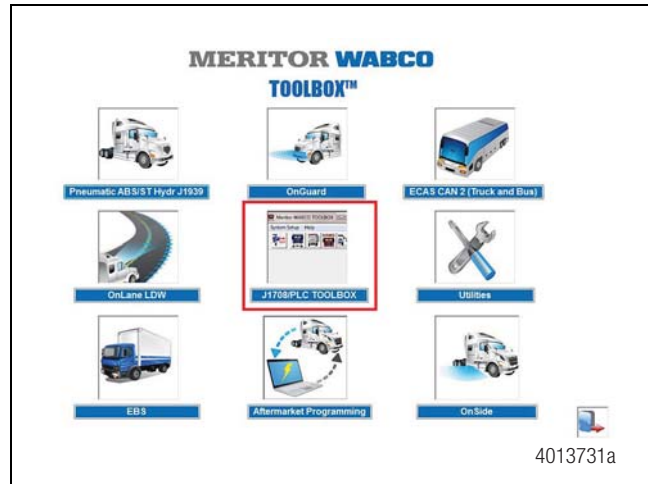

Figure 3
1. Click the **TOOLBOX** icon on the desktop and then click the **J1708/PLC** icon. Figure 3.